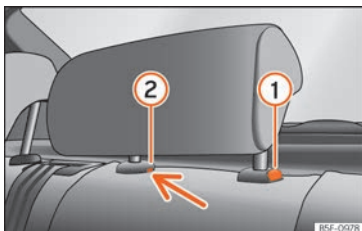

Fig. 150 Rear centre head restraint: release point.
- To set the head restraint lower down, press the » » » Fig. 150 ① button and move it downwards.